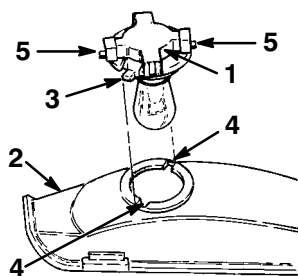

Figure 55
4. Rotate the bulb holder 1/4 turn counterclockwise and remove it from the reflector (Fig. 55).
2. Align the two tabs on the bulb holder with the slots in the reflector and insert the bulb holder into the reflector (Fig. 55).